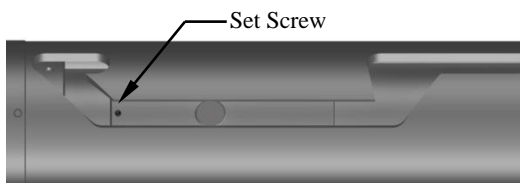

Fig. 3
L-2.15) Screw set screws (6) into J-pin bottom sub (23). Move J-body (20) as needed (Fig. 3).